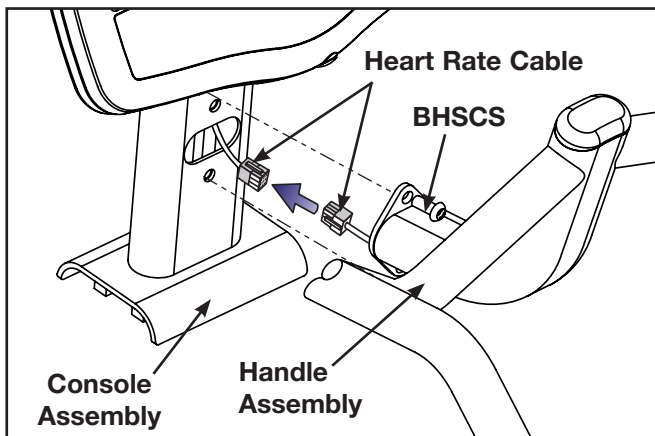

Figure 5
- B. Using a 7/32" Allen wrench, remove the two BHSCS securing the handle assembly to the console assembly. See Figure 5.
- C. Carefully unplug the heart rate cable connector. See Figure 5.